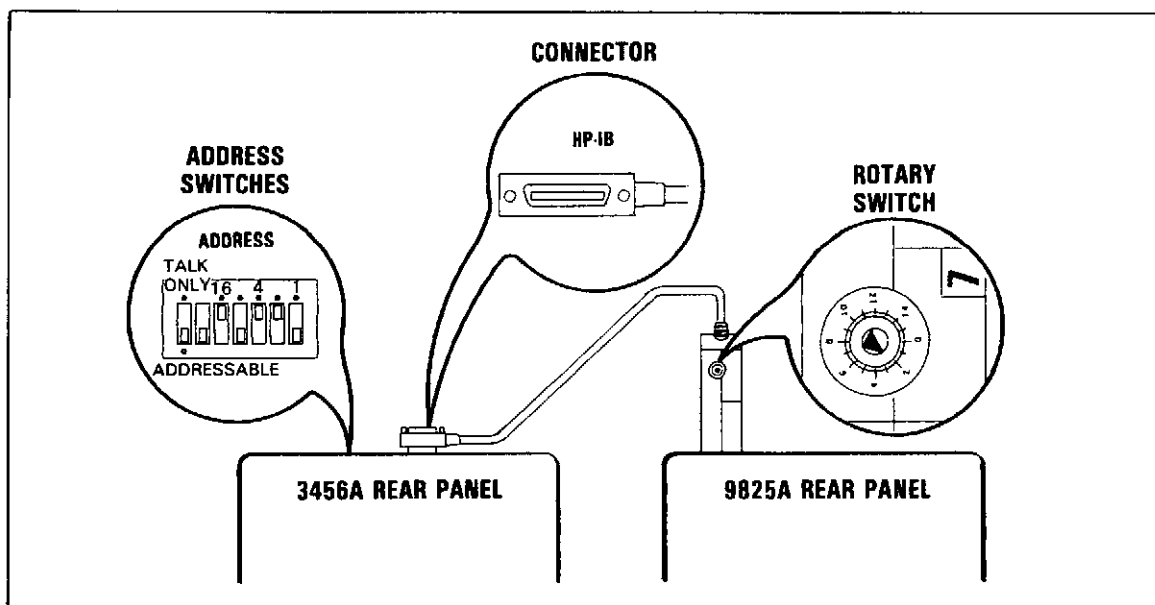

Figure 1. System Connection.
To connect the system as shown in Figure 1, follow these steps:
6. The 3456A address switches are factory pre-set to binary 0010110 (decimal 22). The address switches are on the rear panel under the HP-IB connector. If the address is different, change it to decimal 22 as shown in Figure 1.